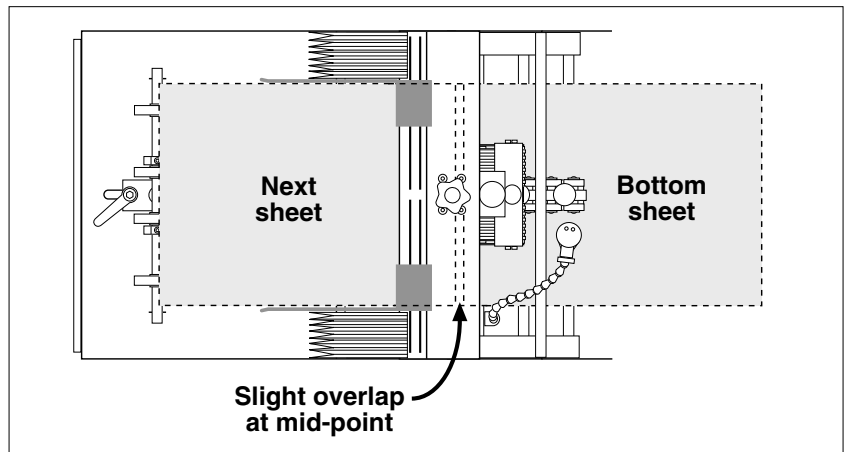

Figure 3-15. Optimum Overlap and Separation of Product
2. Observe how individual product enters and exits the gate assembly area. Remember, a properly set gap will allow each new sheet to enter at about the centerline of the cylinder while the bottom sheet is exiting the gate assembly area (Figure 3-15). Ideally, this means a slight overlap of both the first sheet and the second sheet (1/8 in. or 3 mm) at the gate assembly area. The overlap occurs as the bottom sheet is exiting, and the next sheet is entering.